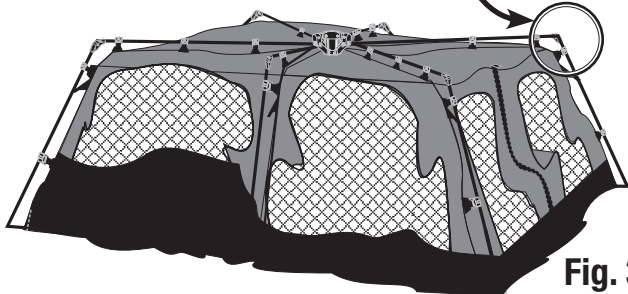

Fig. 3
- Unfold the arm joints located at each of the tent corners. The tent will raise as the leg poles are extended. (Fig. 3 and 4)